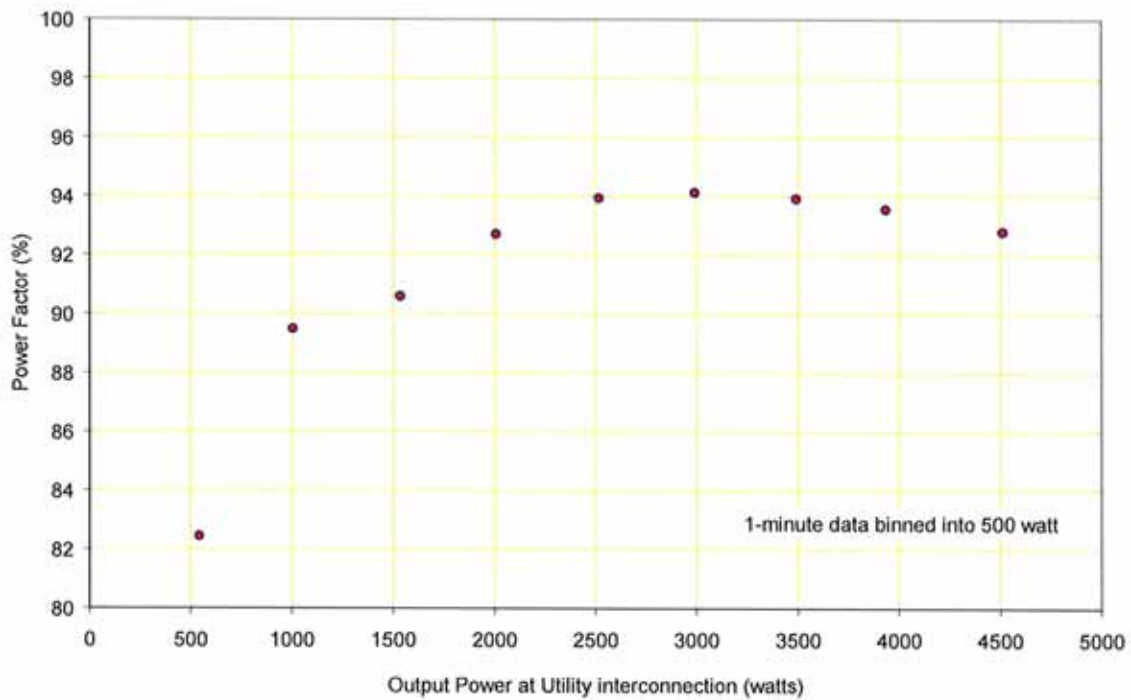

Figure 3. Measured power factor
The power factor (PF) has been measured using a Phaser watt transducer (accuracy 0.3%). Data was collected at 5 Hz and averaged for 1 minute then binned into 500 watt bins, shown in Figure 3 on page 1-4.